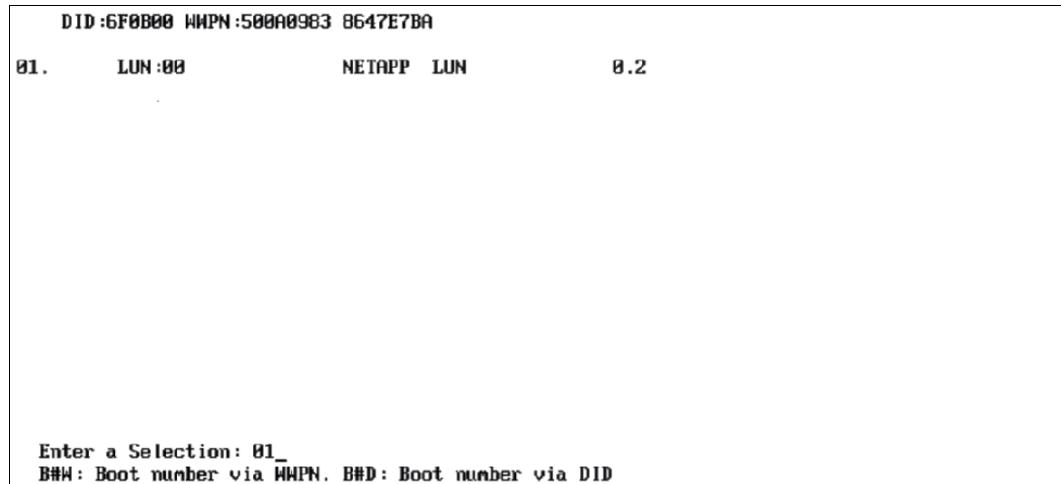

Figure 18-18 Bootable devices menu
11. BootBIOS displays a menu of bootable devices. The devices are listed in boot order. The primary boot device is the first device listed. If the primary boot device is unavailable, the host boots from the next available device in the list. In the example shown in Figure 18-18, only one LUN is available. This is because SAN zoning is configured to one path as suggested in 18.2.1, “Configuration limits and preferred configurations” on page 221. Select 01 to select the primary boot entry, and press Enter.